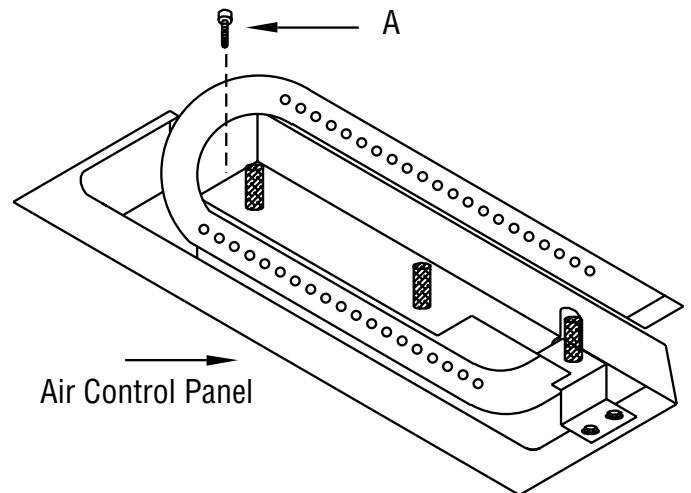

Figure 38
3. Remove the allen head screw (A in Figure 38) at the left end of the burner. Lift out the air control panel.